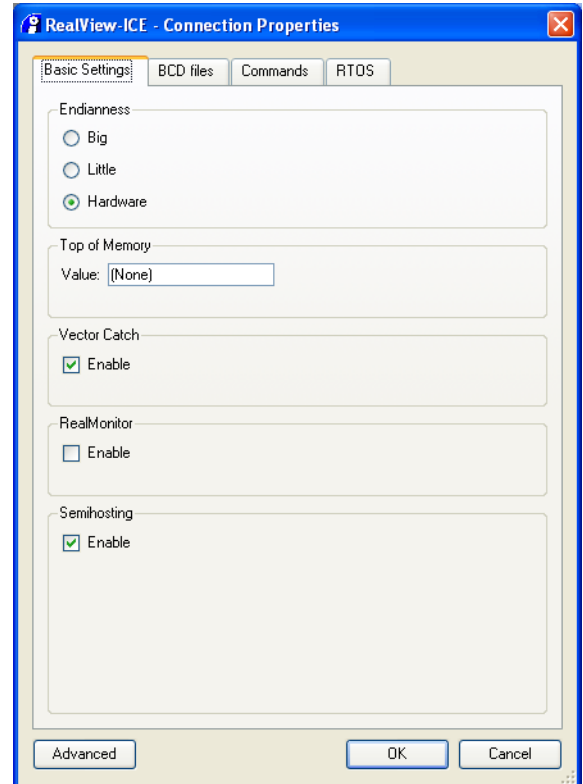

Figure 3-2 Connection Properties dialog box
3. Select **Properties...** from the context menu. The Connection Properties dialog box is displayed. Figure 3-2 shows an example: